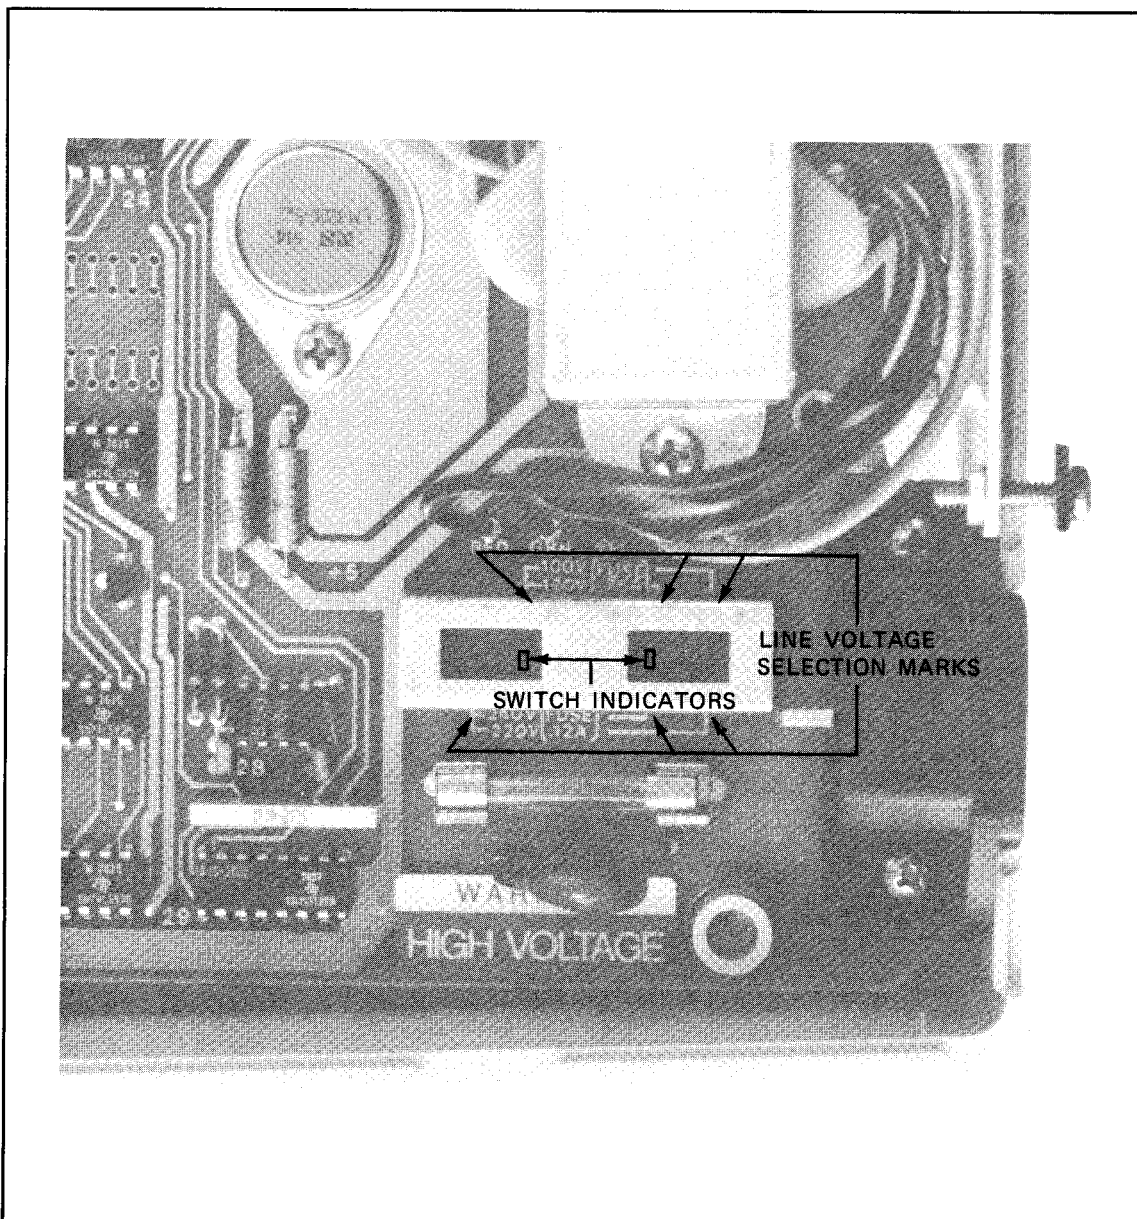

Figure 5-2. Fuse and Line Voltage Selection
- b. Refer to *Figure 5-2* which shows the line fuse holder and the line voltage selection switches. Both switch indicators must be set to the line voltage selection marks to match the available line voltage.